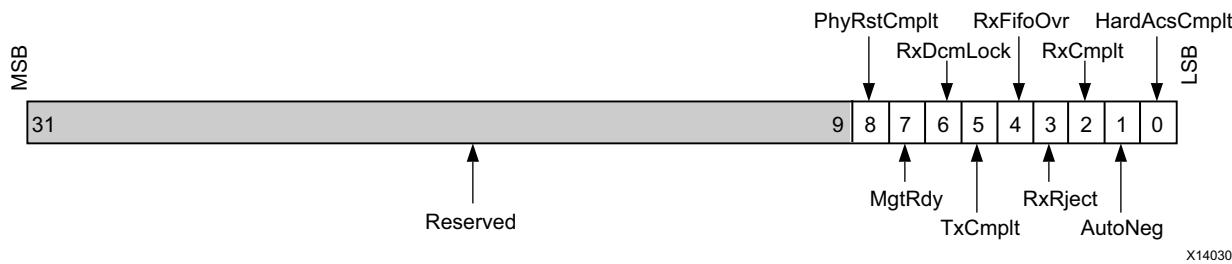

Figure 2-30: Interrupt Pending Register (0x0000_0010)
The Interrupt Pending (IP) register is shown in Figure 2-30. This register combined with the IS, IE, MIS, and MIE registers define the interrupt interface of the subsystem. The Interrupt Pending register uses one bit to represent each subsystem internal interruptible condition that is represented in the Interrupt Status register.